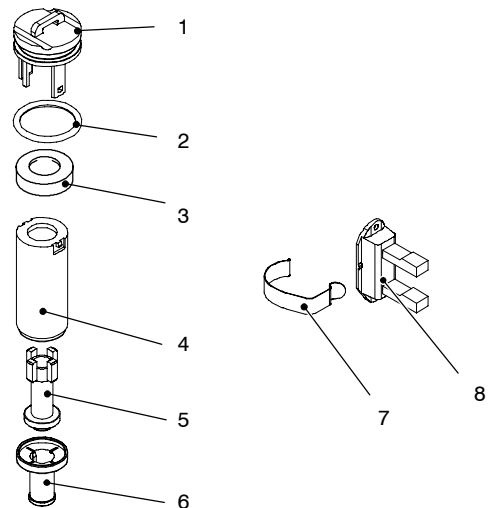

Fig. 68
14.2 Description and location of parts (Fig. 68)
- 3 To remove the filter from the flow switch group separate the filter 6 from the body 4 (Fig. 68) by levering it.